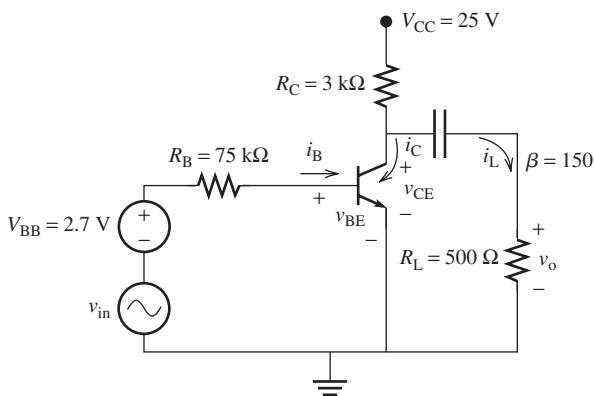

FIGURE P8.48 Circuit of Problem 8.48.
- 8.48 (H)*** Find A_v , A_i , R_i , and R_o for the circuit shown in Figure P8.48.